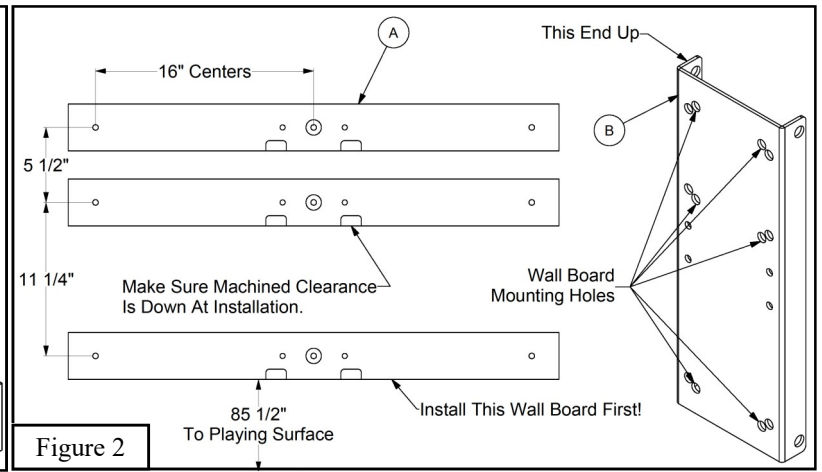

Figure 2
2. Using the Wall Mounting Hardware (CC) that was selected by the installer and suitable for use on the type of wall construction being mounted to, mount the Wall Boards (A) to the wall at no less than 3 locations per Wall Board (A). If the predrilled wall mounting holes in the Wall Boards (A) interfere with joints or other wall obstructions, drill additional holes in the Wall Boards (A). See Figure 2.